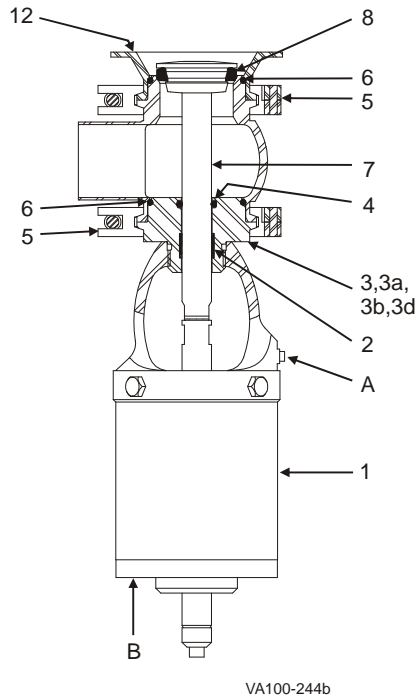

Figure 18: W64/W84 Tank Outlet Valve
3. Remove the body/tank flange clamp (Figure 18, item 5) and remove the valve from the tank flange.
4. Using 5/8-inch wrench flats on the stem, unscrew and remove the valve stem (item 7).
5. Replace the seat ring (item 8) as needed. See "Seat Replacement" on page 37.
6. Remove the lower body o-ring (item 6); replace as needed.
7. Remove the upper body clamp (item 5) and upper body from the adapter (item 3).
8. Unscrew the adapter (item 3) from the yoke.
9. Remove the upper body o-ring (item 6) and stem o-ring (item 4); replace as needed.
10. Inspect and replace the PTFE bearing (item 2) as needed.
5. Using 5/8-inch wrench flats on the stem, unscrew and remove the valve stem (item 7).